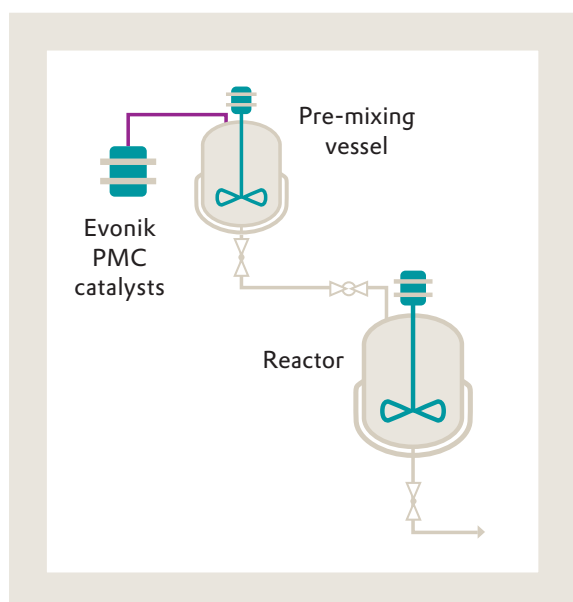

Figure 1: reactor charging with pre-mixing vessel
1. Adding catalyst via pre-mixing vessel, where the catalyst is suspended in the solvent and fed into the reactor via a piping system. This also allows for a semi-continuous addition of catalyst suspension into the reactor under inert conditions (Figure 1).
We recommend using option 1 or 2 when wetting a PMC with a flammable solvent (Figure 1).